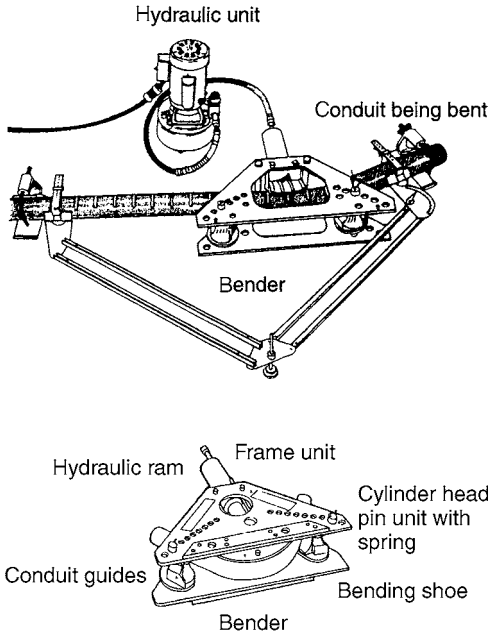

FIGURE 1-3. Hydraulic bender.
**Hydraulic Bender.** A hydraulic bender is used to end conduit. A steel box houses the bender unit that can be used with two electric pumps or a manual pump. Figure 1-3 shows a typical hydraulic bender. Become familiar with its parts so that you are able to use it on the job.